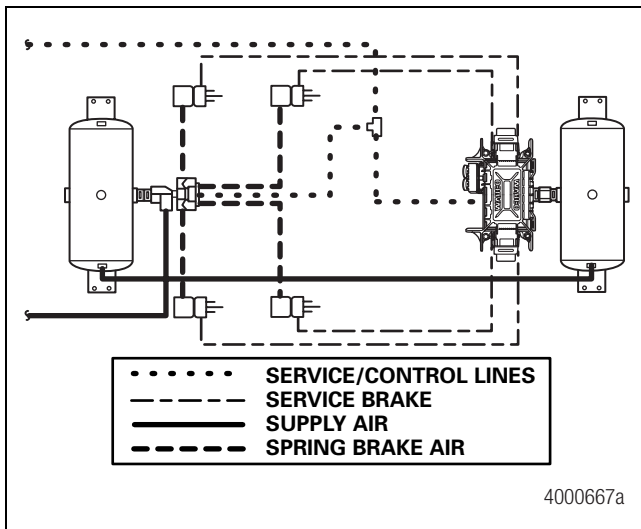

Figure 20
3. Connect the brake service control line (blue line) to Port 4 on the ECU/modulator valve assembly. Figure 20.